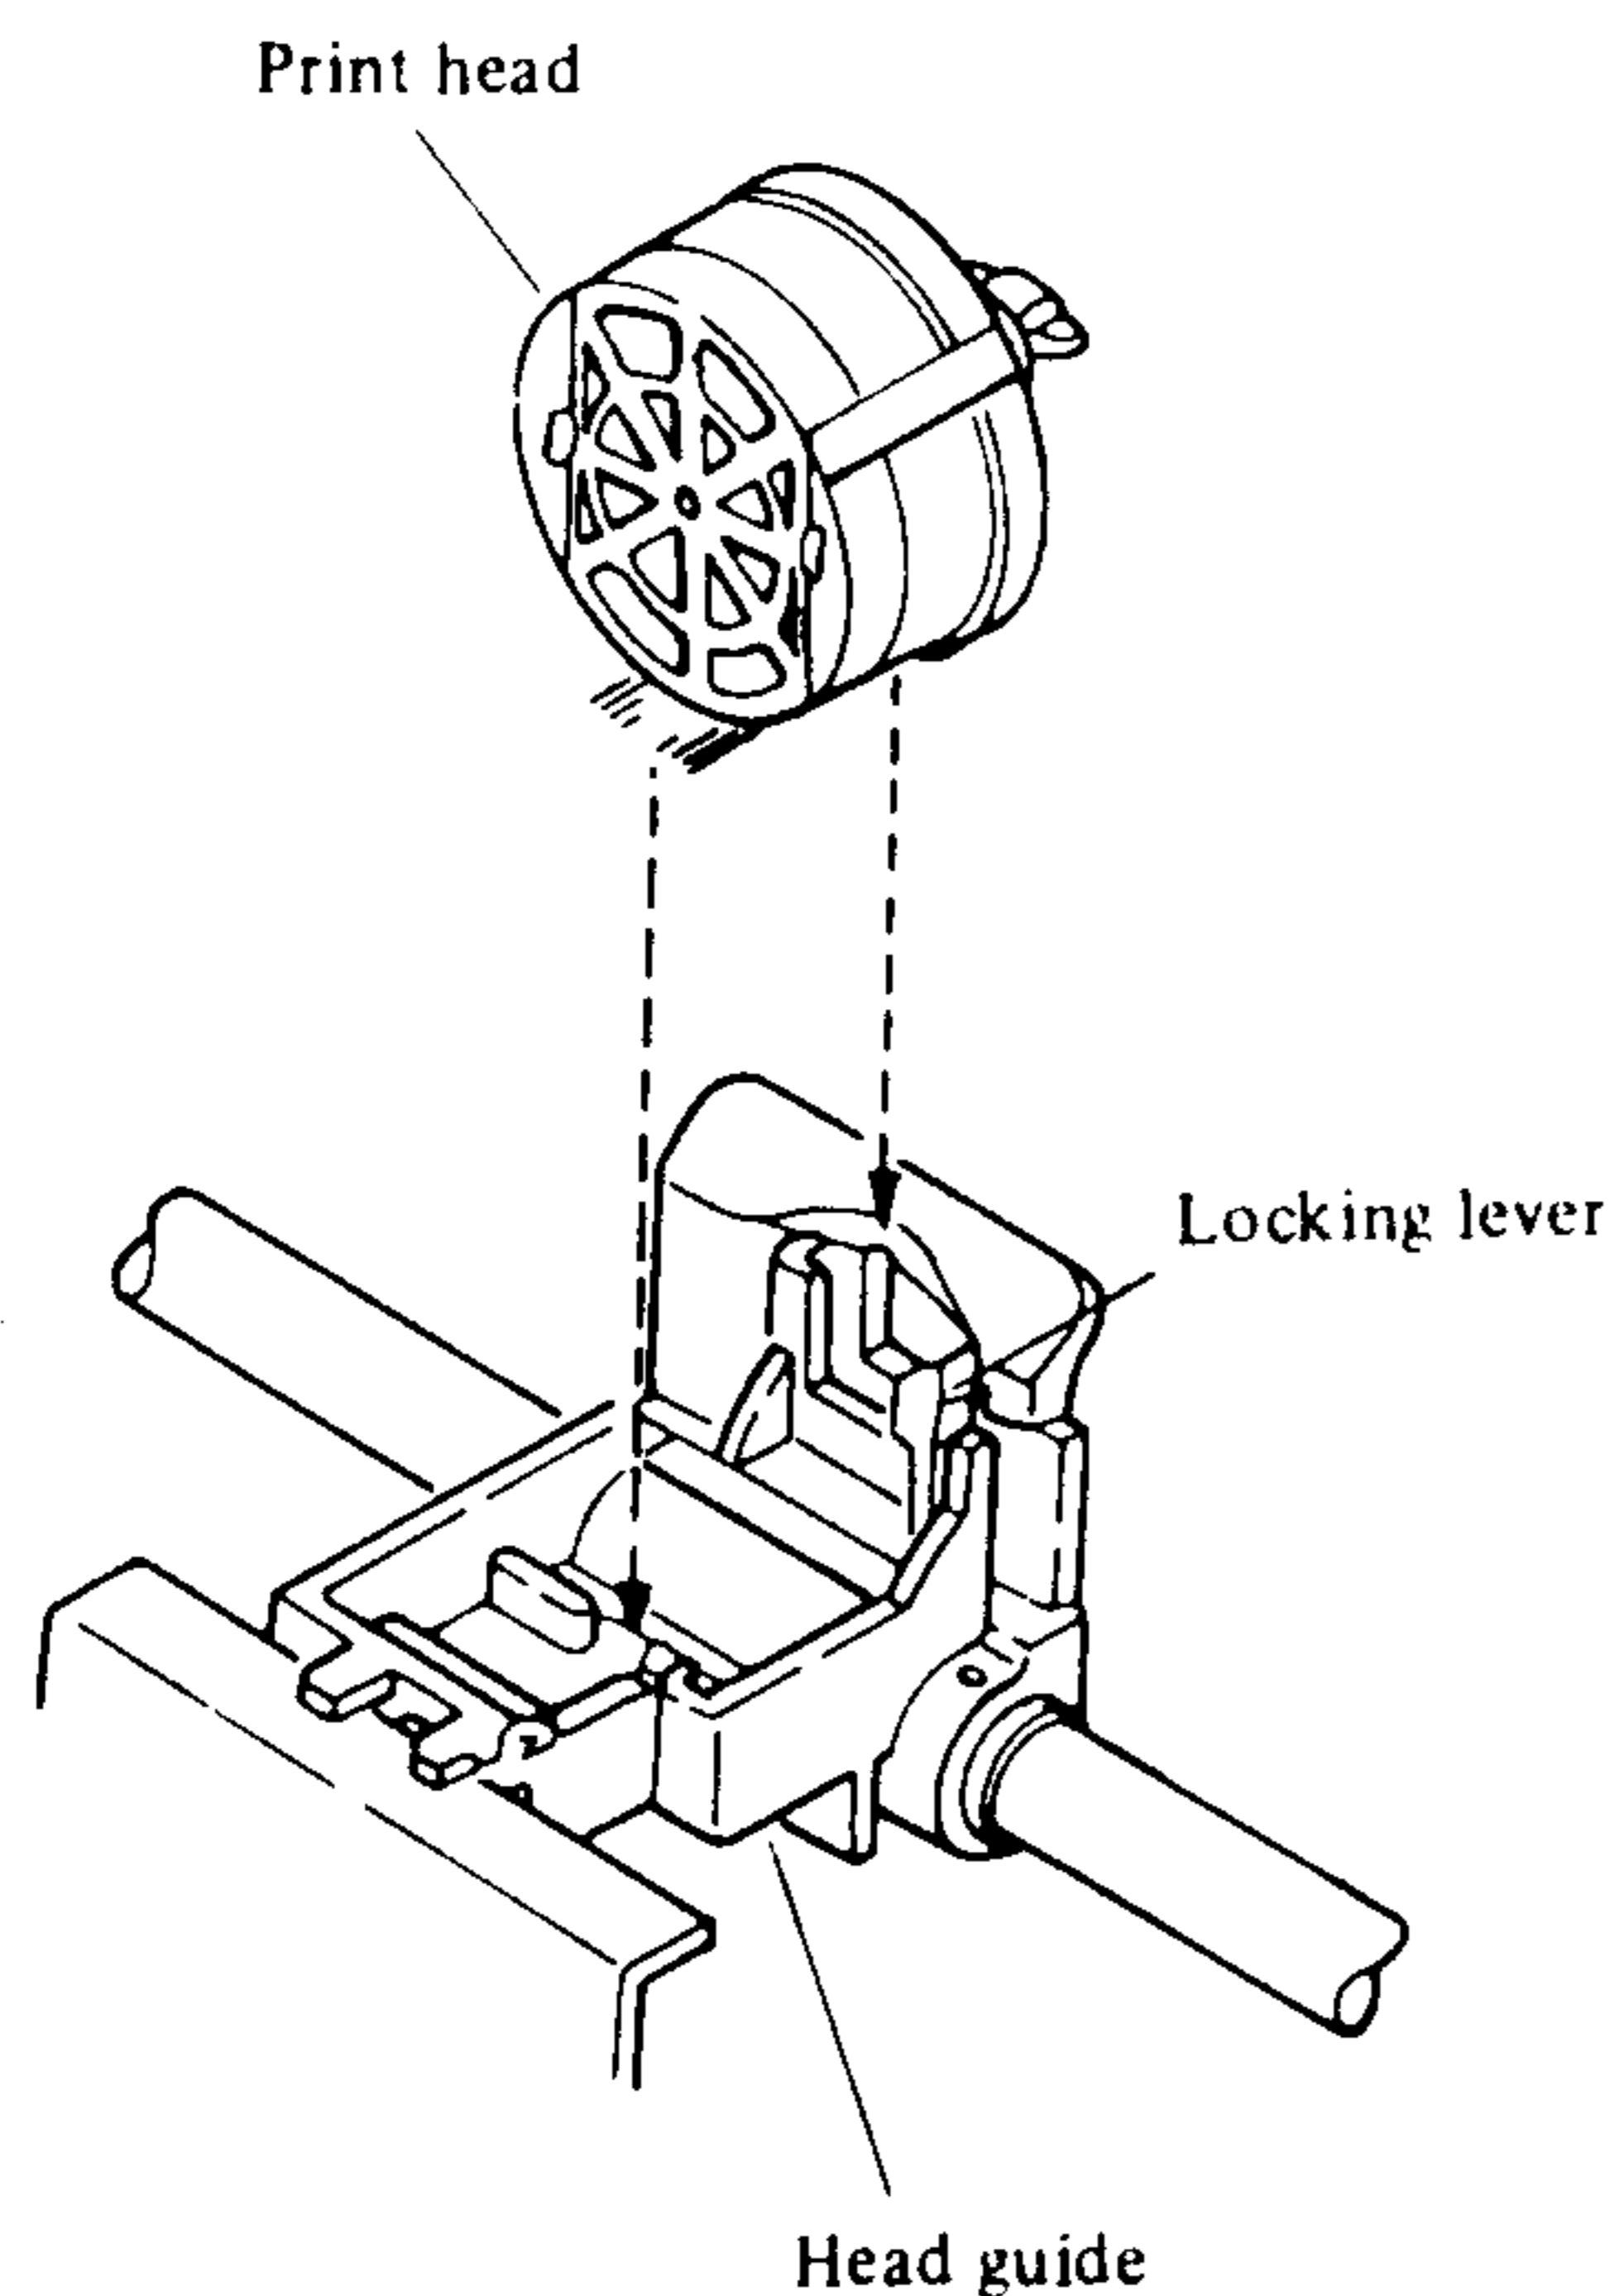

Figure A-2. Replacing the print head.
3. Locate the print head to the most left position and its connection as shown in Figure A-2. Grasp the cable and the plastic reinforcer that covers it and gently pull the cable free from the connector.